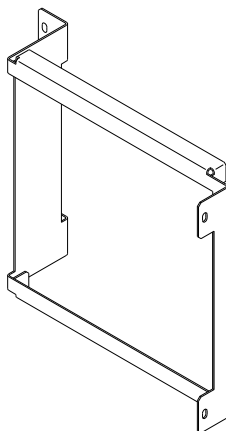

Figure 1-12. LIB2 Shipping Retain Bracket
- Keep the LIB2 board shipping retain brackets in place, if any; they will be removed later (Figure 1-12 on page 1-12).
In front of each LIB2 board, a shipping retain bracket (Figure 1-12) holds the LIC5/LIC6 cassettes in place.